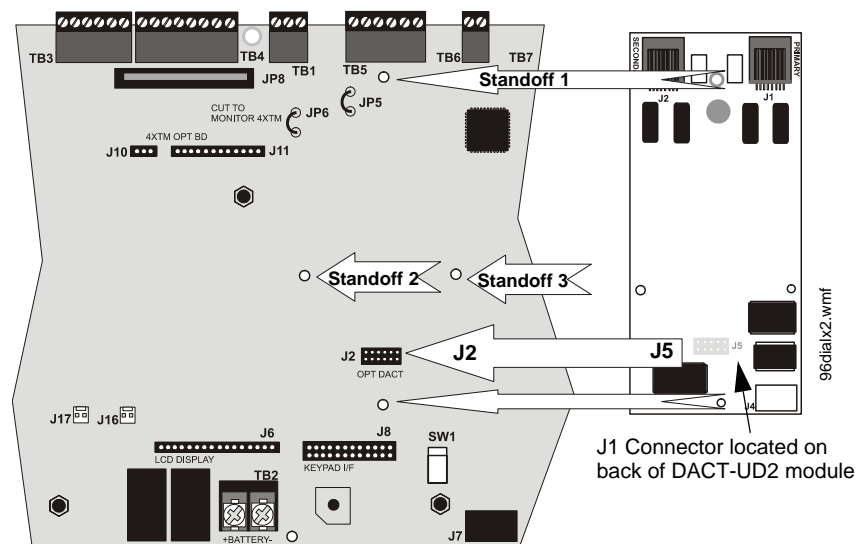

Figure 2.12 DACT-UD2 J1 Connector to FACP J2 Connector
4. Remove and discard the Keypad/Display support standoff that presently occupies DACT-UD2 standoff location #3 (refer to Figure 2.12)
5. Install the supplied DACT-UD2 female/female standoffs in the three locations shown in Figure 2.12 and secure with the three supplied screws, inserted from the bottom side of the main circuit board. Be sure to tighten them fully.